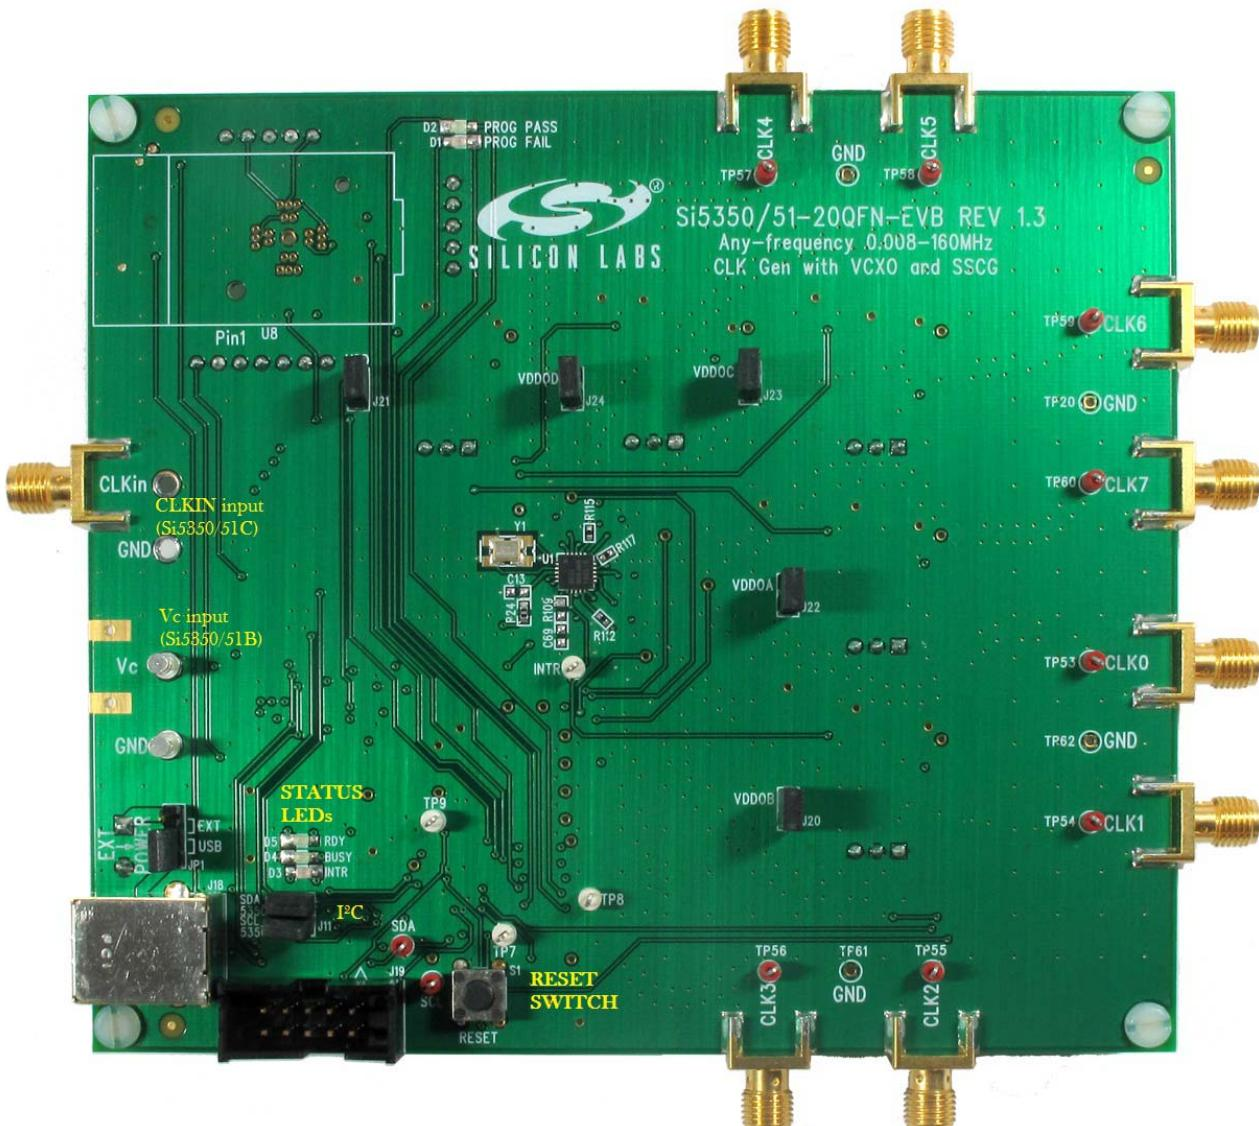

Figure 1. EVB Features (Front)
Figures 1 and 2 highlight the main features of the EVB. The onboard MCU is responsible for programming the Si535x timing IC, measuring the device's current consumption reported in the ClockBuilder™ Desktop, managing power, and controlling status LEDs. VDD and VDDO jumpers allow the option of choosing between 1.8 (VDDO only), 2.5, and 3.3 V or powering the device with external supplies (see “2. Jumpers” for details). I²C jumpers allow the Si535x to be disconnected from the I²C bus, allowing external control from another I²C master.
- **EXT POWER**—Allows user to select between 5 V USB supply and 5 V external supply on J17. See Figure 1 for jumper locations.